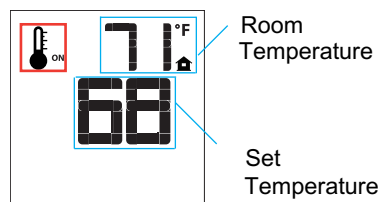

Figure 22 - Remote Control Displaying Room Temperature and Set Temperature
1. To activate this function, press the Thermostat key. The LCD display on the transmitter will change to show that the room thermostat is ON and the set temperature is now displayed (see Figure 22).
2. Adjust the set temperature by pressing the up or down-arrow keys until the desired set temperature is displayed on the LCD screen (see Figure 22).